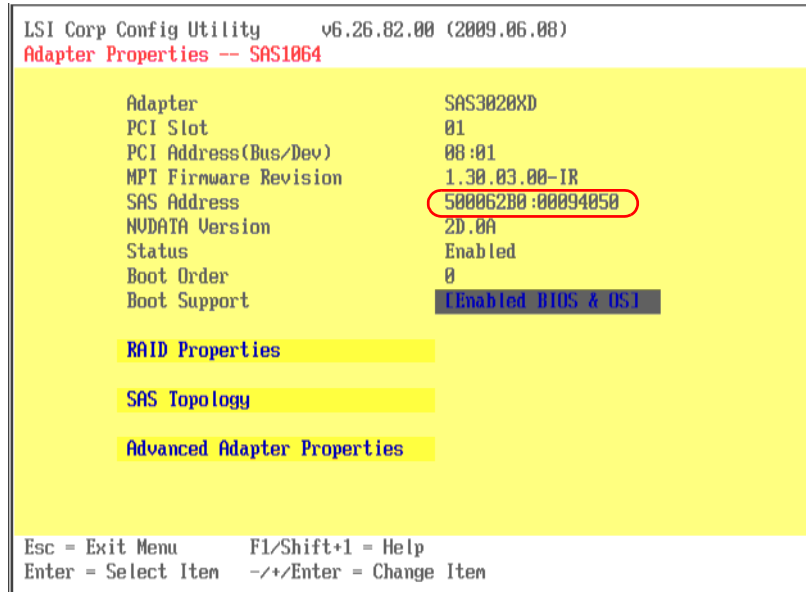

Figure 18-4 SAS Expansion Card - LSI Logic Config Utility adapter selected
4. Press the Enter key to select the SAS adapter internally connected to the SAS connectivity module in I/O Module bay 3 as shown in Figure 18-4 on page 541.